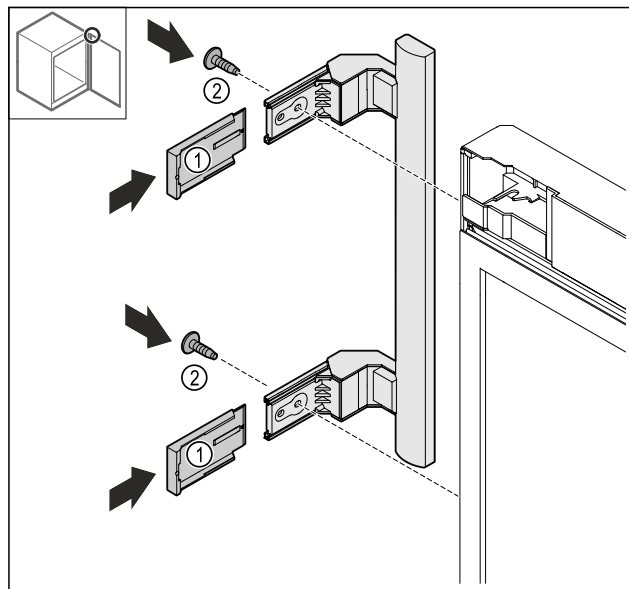

Fig. 19
- ▶ Push the covers Fig. 19 (1) on.